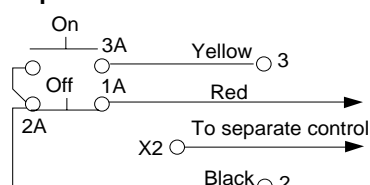

Figure 2 Removable Cover Enclosure
To wire the push button kit for **common control** in an enclosure with a removable cover (refer to Figure 2):
5. Thread red and black wires through the pair of horizontally aligned holes in the push button bracket as shown in Figure 2.
To wire the push button kit for **separate control** in an enclosure with a removable cover (refer to Figure 2):